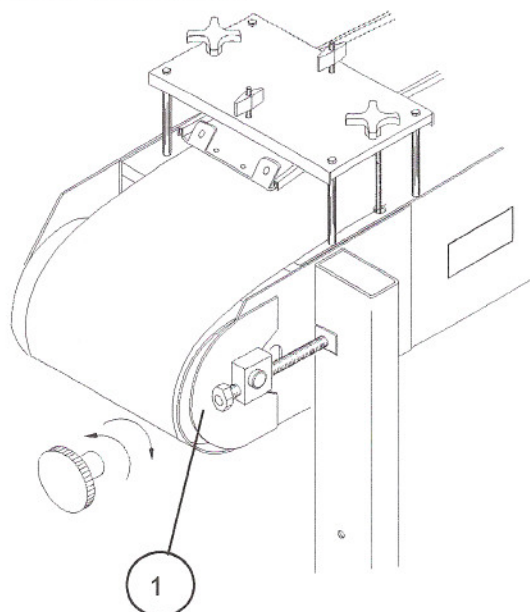

FIGURE 1
STEP 1: WITH ADJUSTING KNOB PART NO. 200000, TIGHTEN OR LOOSEN HEX NUT SHOWN AS FIGURE 1, PART NO. 103IR-2. TURN KNOB COUNTER CLOCKWISE NO MORE THAN FIVE ROTATIONS BEFORE MAKING SAME ADJUSTMENT TO OPPOSITE SIDE. (USE THIS ALTERNATING PATTERN TO LOOSEN BELT ALSO.)